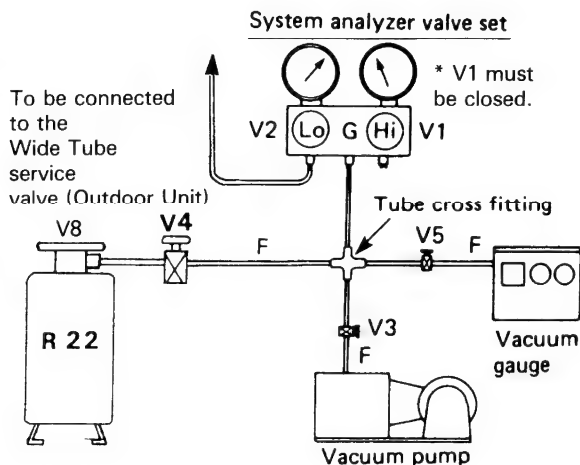

Fig. 23
- 1) Prepare the system analyzer valve set and connect charging hoses as in Fig. 23. Be sure to close all valves before connection. (Refer to page 25, Fig. 35-C)